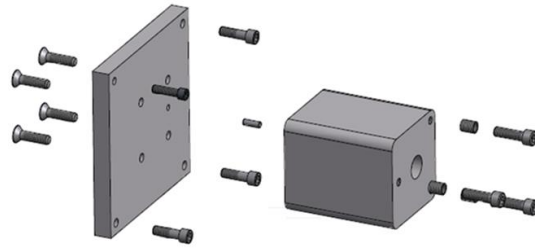
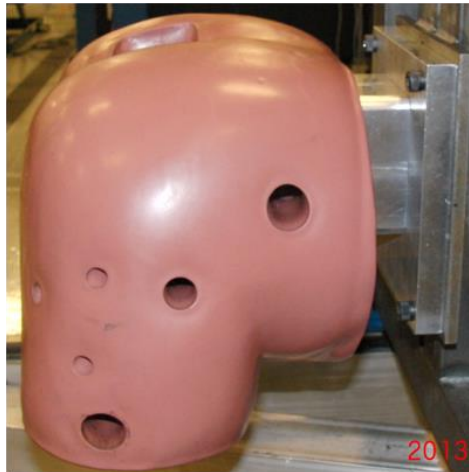

Figure 7: Pelvis Bottom Fixture Assembly (TRA-370)
Figure 8: Pelvis Bottom Test Setup
- Attach pelvis to the pelvis bottom test fixture. Figure 7 and Figure 8 illustrates the pelvis bottom fixture assembly.